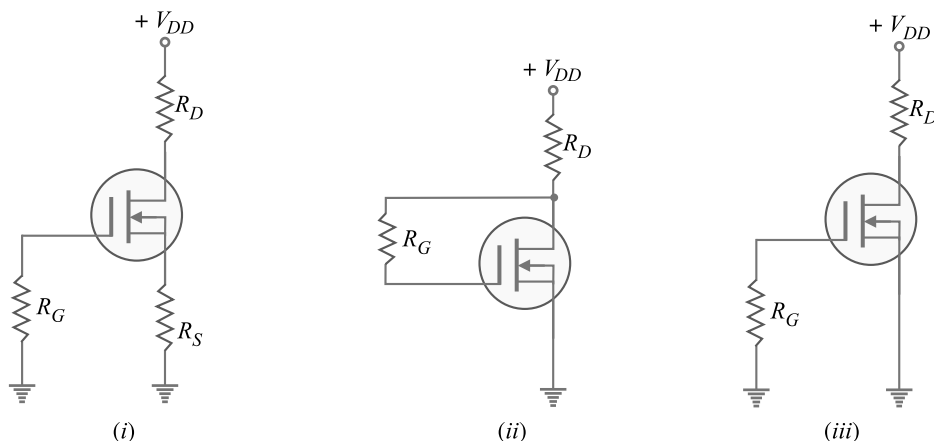

Fig. 17.75
8. Determine in which mode each *D-MOSFET* in Fig. 17.75 is biased.